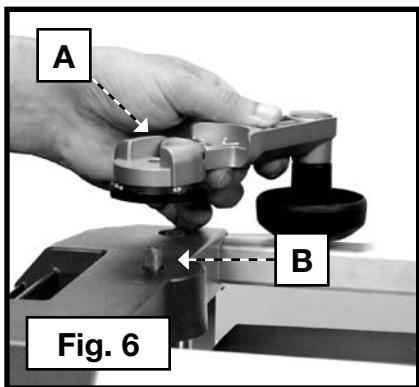

**Fig. 5**
Use the supplied wrench to attach the cutterhead lock handle (A) Fig. 5 to the shaft (B) with the M6-20mm star socket head screw and lockwasher.